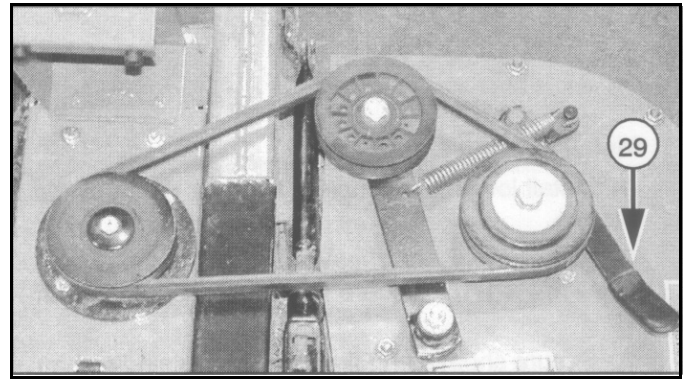

Figure 8. Belt Tension Lever Engaged
2. Engage belt tension lever (29) as shown in Figure 8.